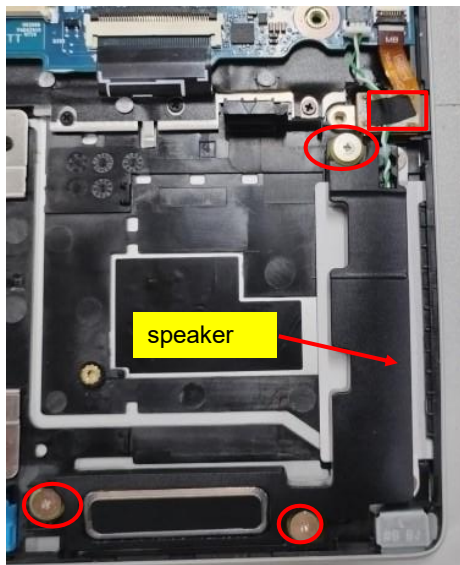

Figure 1
1. Loosen the Speaker screws (6052B0155402) *3, remove the speaker (Figure 1).